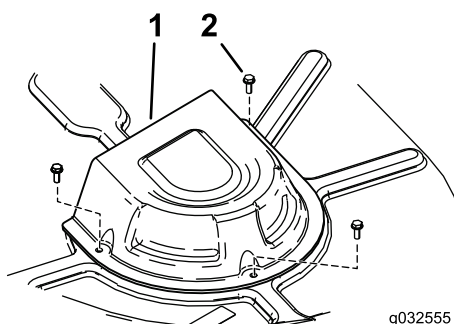

Figure 59
4. Remove the pulley covers (Figure 59).
8. Install the pulley covers (Figure 59).